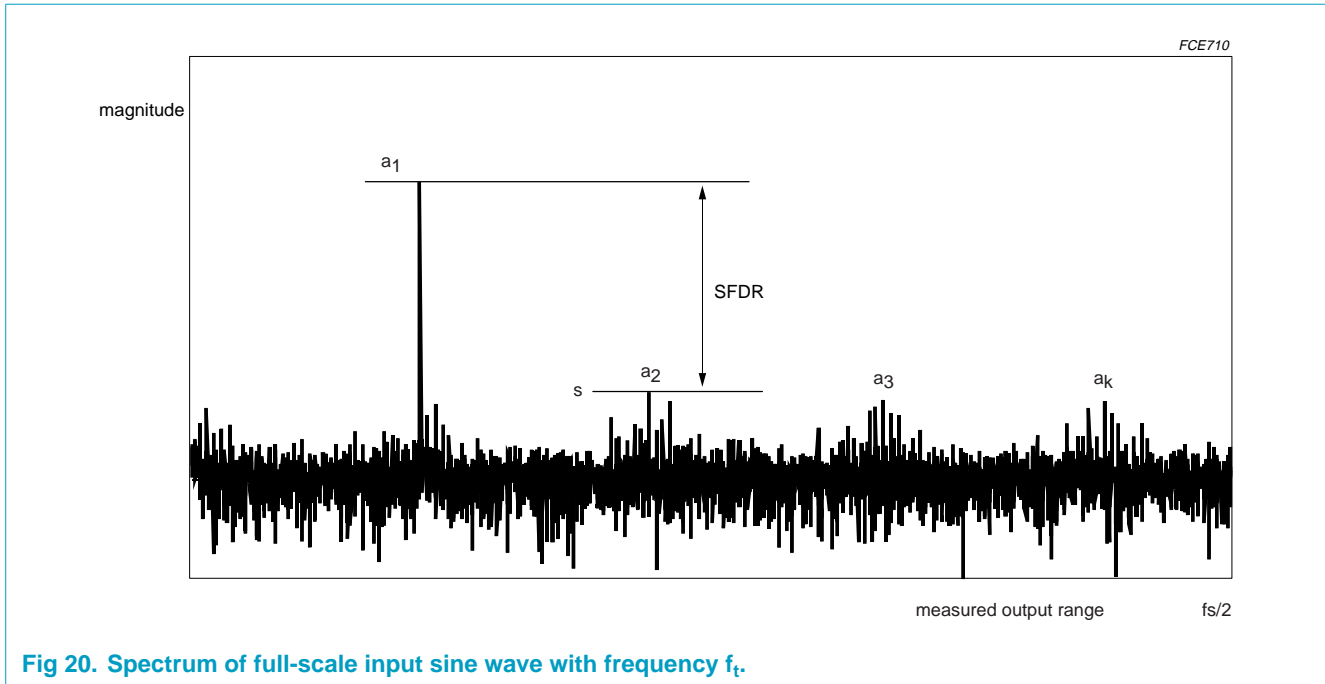

Fig 20. Spectrum of full-scale input sine wave with frequency  $f_t$ .
**Figure 20** shows the spectrum of a full-scale input sine wave with frequency  $f_t$ , conforming to coherent sampling ( $f_t/f_s = M/N$ , where  $M$  is the number of cycles and  $N$  is number of samples,  $M$  and  $N$  being relatively prime), and digitized by the ADC under test.